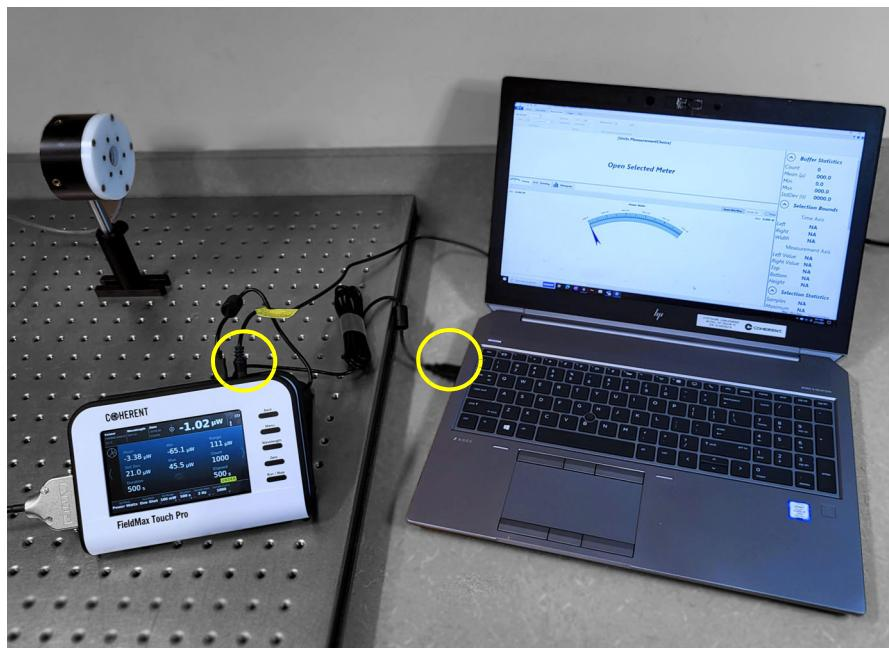

Figure 3-4. Connect the Meter to a PC
1. Attach a USB 2.0 cable from the meter's high-speed mini-B port to the PC, as shown in Figure 3-4.